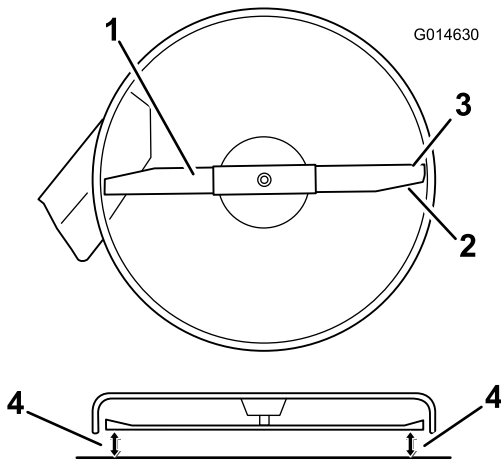
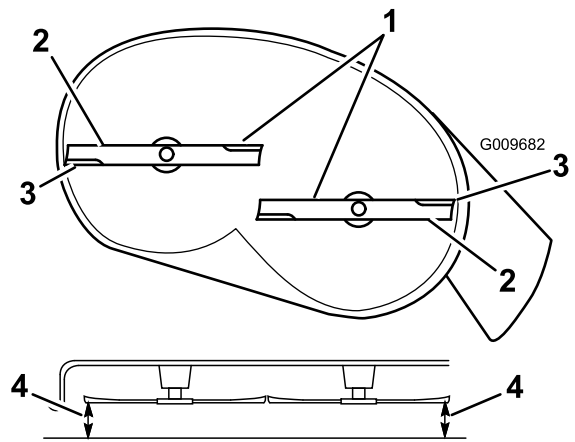

Figure 60
Figure 61
4. Carefully rotate the blade(s) so that they are all side to side (Figure 60 and Figure 61).
5. Measure between the outside cutting edges and the flat surface (Figure 60 and Figure 61).